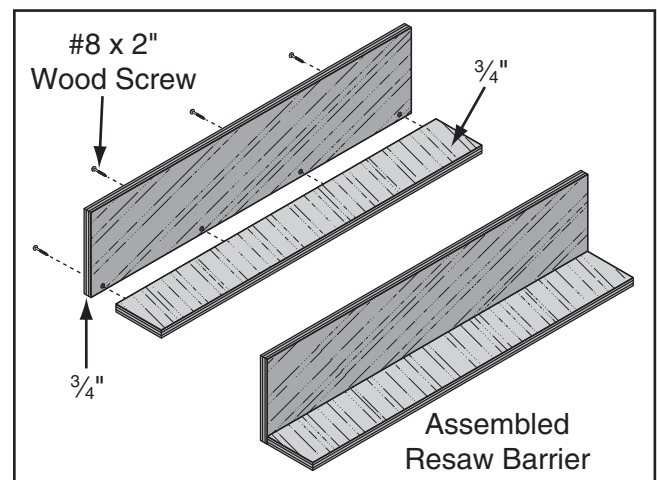

Figure 86. Resaw barrier.
3. Glue the end of the 3" board, then clamp the boards at a 90° angle with the larger board in the vertical position, as shown in **Figure 86**, then fasten together with the wood screws.